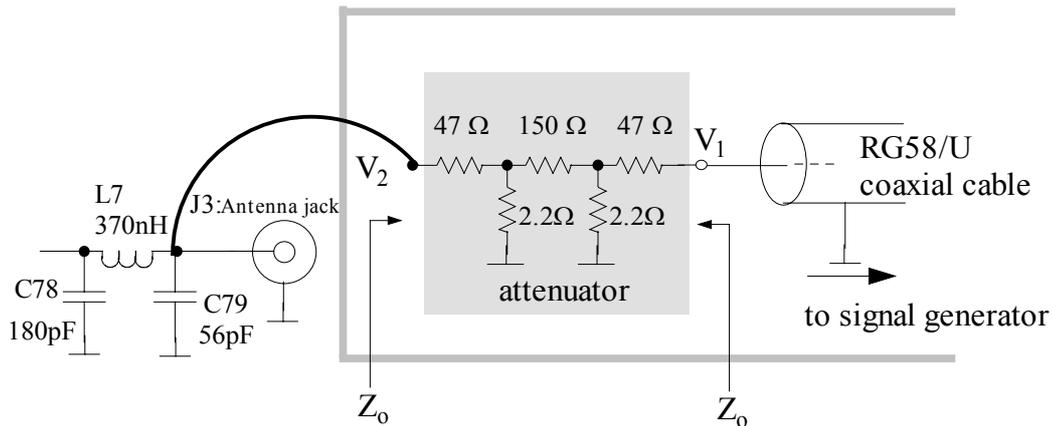

Figure 7.18 Signal generator connection for RX sensitivity measurement
39. We need a very weak (low power) signal at the antenna input to test the RX chain. The signal generator output does not provide such low level signals. We must use an attenuator at the antenna input. We use the circuit given in Figure 7.18.